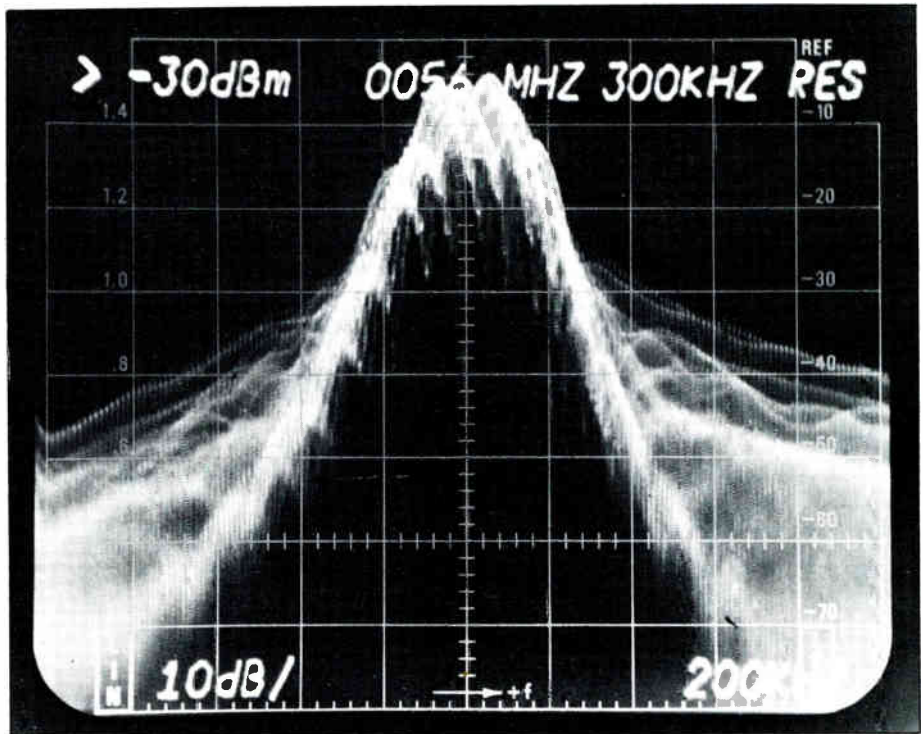

Figure 5-3 Near-zero-beat on 15.75 kHz sideband
7. In theory, it is possible to zero beat a 15.75 kHz sideband instead of the carrier. In practice it is quite difficult and looks different than a carrier zero-beat. Figure 5-3 shows what such a zero-beat looks like. Note the lack of the bright line outlining the beat note.